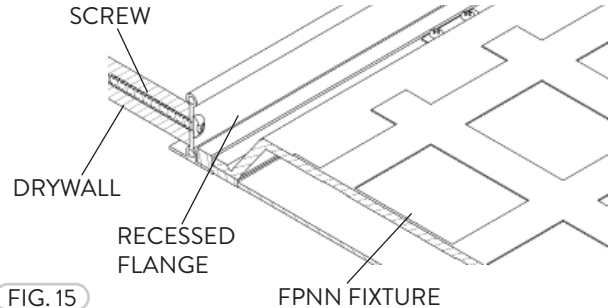

FIG. 15
- 4 If the Drywall ceiling is at least 1" thick, then the Recessed Flange Frame can be fastened from the sides. See 'cut-out' below (Fig. 15). Mounting screws are not included.